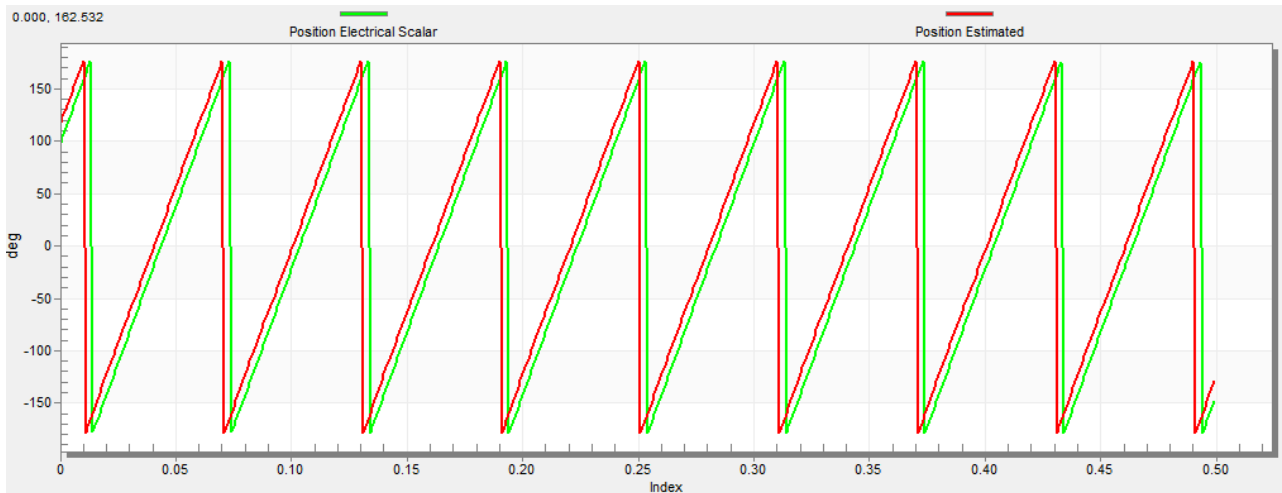

Figure 49. Generated and estimated positions
6. Select the “Position” recorder to check the observer functionality. The difference between the “Position Electrical Scalar” and the “Position Estimated” should be minimal (see Figure 49) for the Back-EMF position and speed observer to work properly. The position difference depends on the motor load. The higher the load, the bigger the difference between the positions due to the load angle.